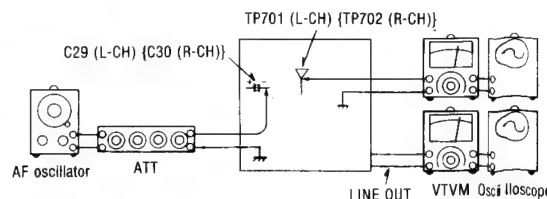

Fig. 20
1. Make connections as shown in fig. 20.